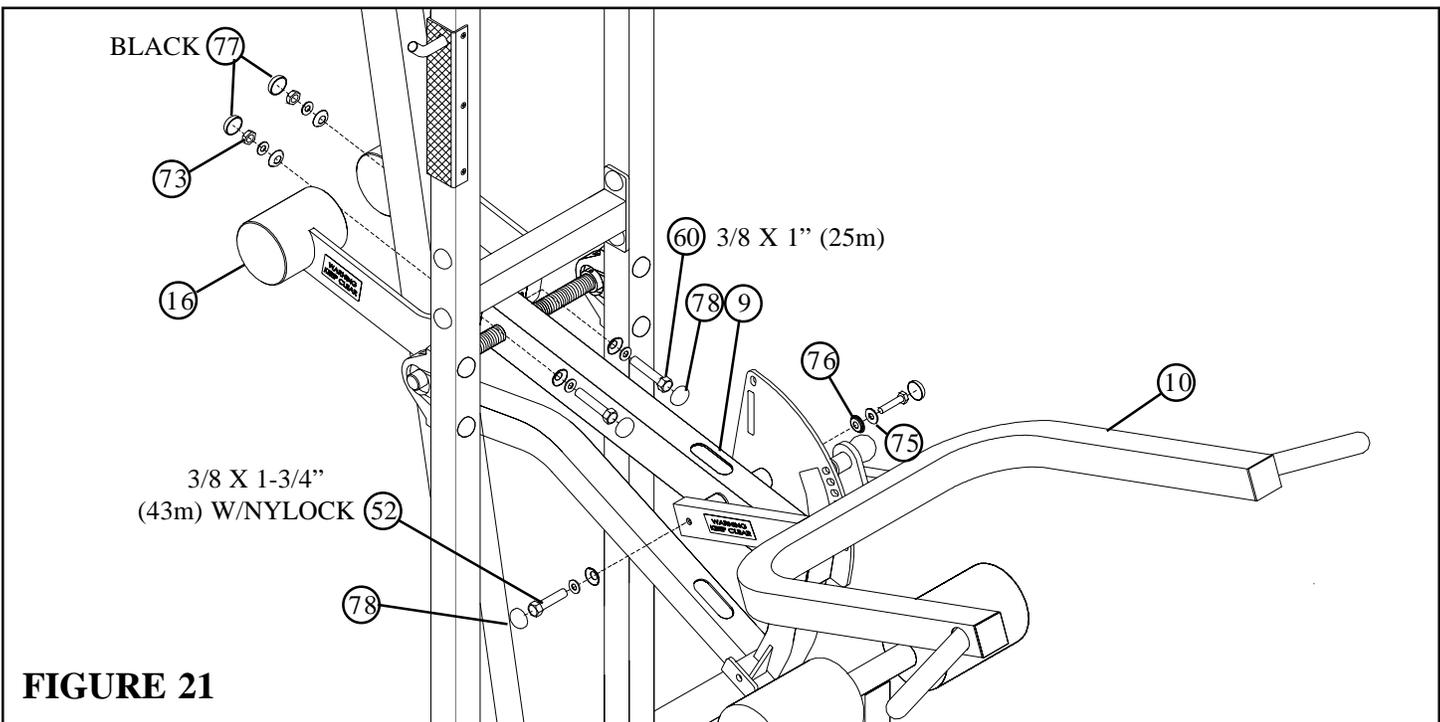

**FIGURE 20**
- **SECURELY** assemble the PRESS ADJUST PLATE (26) to the PIVOT ARM (9) using three BLACK RH CAPS (77), three RH CAPS (78), two 3/8 X 2-1/2" BOLTS (64), one 3/8 X 3-1/2" BOLT (63), six 3/8" SAE WASHERS (75), six 3/8" RH WASHERS (76) and three 3/8" LOW HEIGHT LOCK NUTS (73) as shown in FIGURE 20.
- Insert one 5-1/2" TAPPED PIVOT SHAFT (41) into the PIVOT ARM (9).